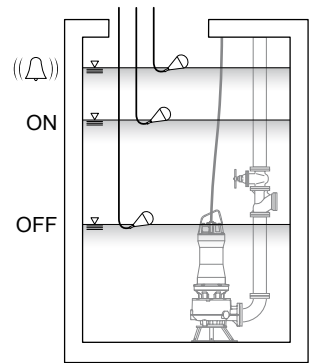

Fig. 5
2.5 Installing the float switch control system (Fig. 5)